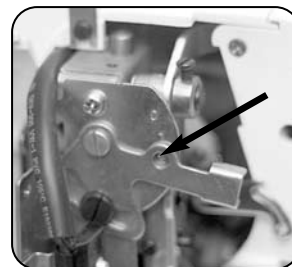

Fig. 4
2. Move the lever until the desired pressure number is displayed in the opening of the lever [Fig. 4]. Standard setting is 2. To increase pressure move to a higher number. To decrease pressure move to a lower number.